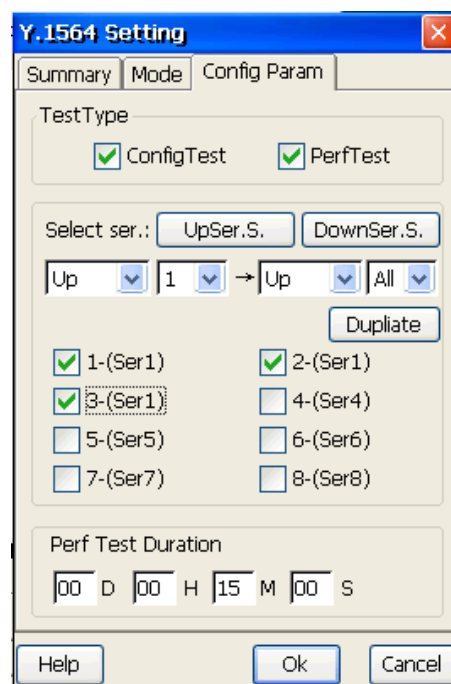

Figure 6.3.4 Parameters Duplicate
3. Select service ID to duplicate (option). This method is used in the case of some service settings. Copy up service1 setting to up other settings and all of the down service settings, as is shown in figure 6.3.4.